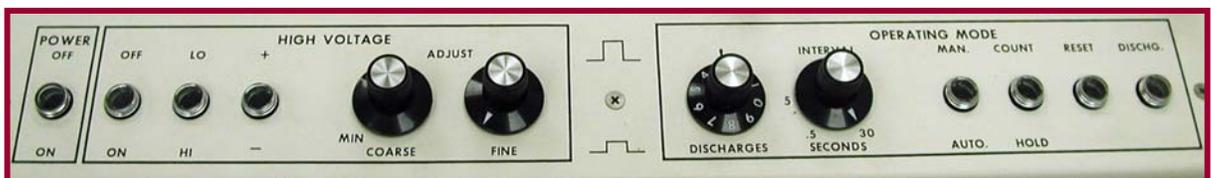

Figure 2.0-4: Front panel controls
All controls for operating the Discharge Simulator are located along the front edge of the unit as shown in Figure 2.0-4. Four types of controls are used: two position push button switches, momentary push button switches, rotary controls, and a ten (10) position rotary switch. The status of the 2-position push button switches are indicated by panel markings above and below each switch. The marking above each switch defines the mode with the switch in the up position. Accordingly, the marking below defines the state with the switch in the down position.
Refer to Figure 2.0-4 for the location of the various controls described below.